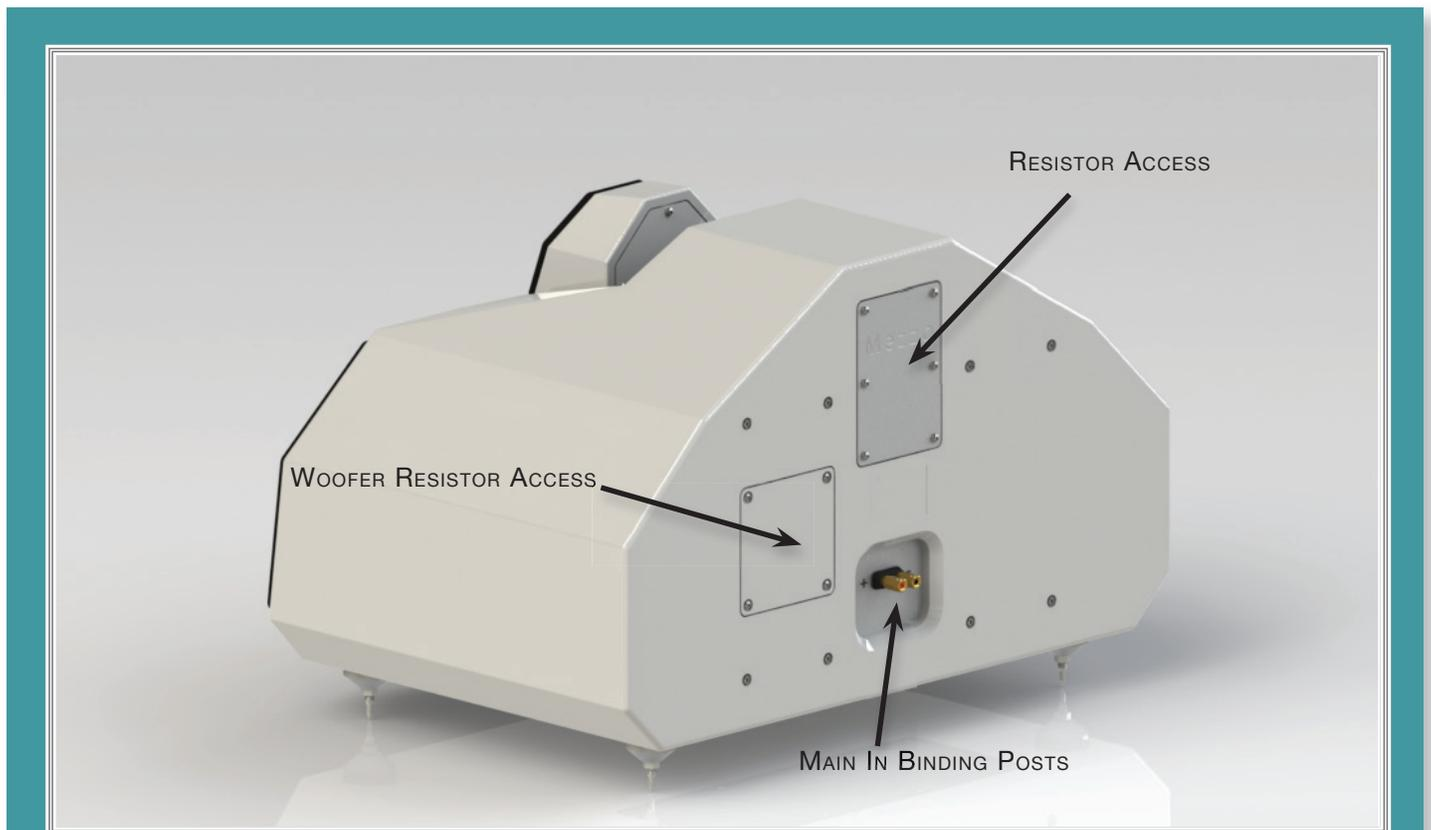

FIGURE 12 – MEZZO CABLE CONNECTION AND RESISTOR ACCESS
4. Bolt the Mezzo to the stand using the four 3/8 – 16 threaded socket head cap screws and washer provided (see Figure 12).
3. Connect the negative (normally black) end of the speaker cable to the high current speaker binding post with the silk-screened “-” above it (see Figure 12).